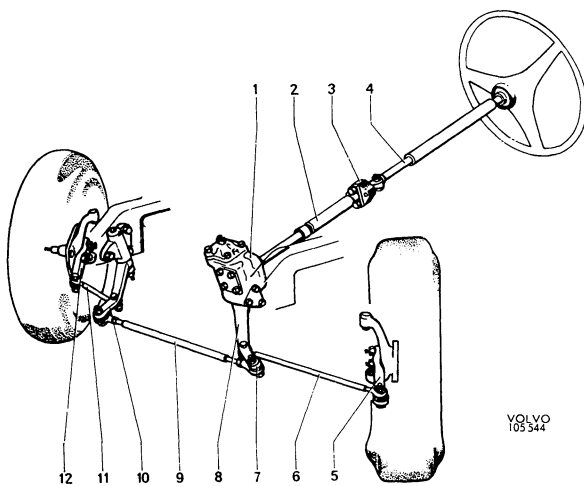
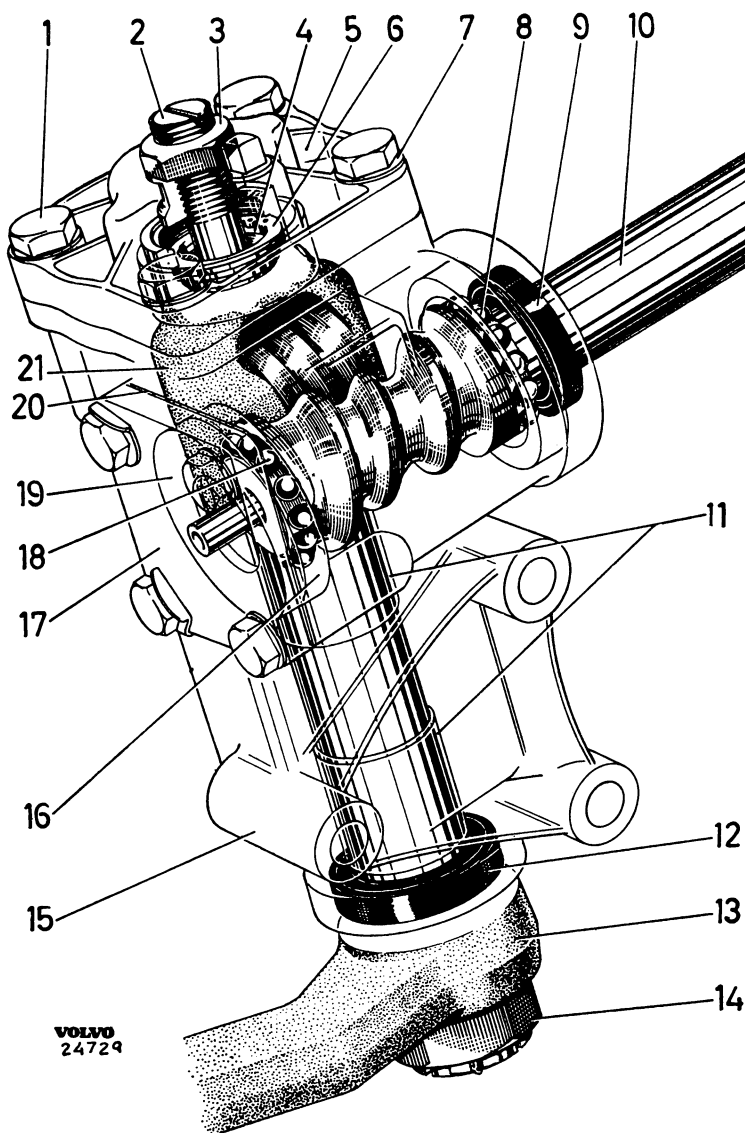

Fig. 6-28 Steering gear
Fig. 6-30. Steering box
The construction of the steering gear is shown in Fig. 6-28. Steering wheel movement is transmitted to the wheels through the steering column (4), steering box (1), pitman arm (8), tie rod (9), steering rods (6 and 11) and steering knuckles. The gear in the steering box (Fig. 6-30) is of the "cam and roller" type. The steering cam is carried in two ball bearings and the pitman arm shaft in three bushes.